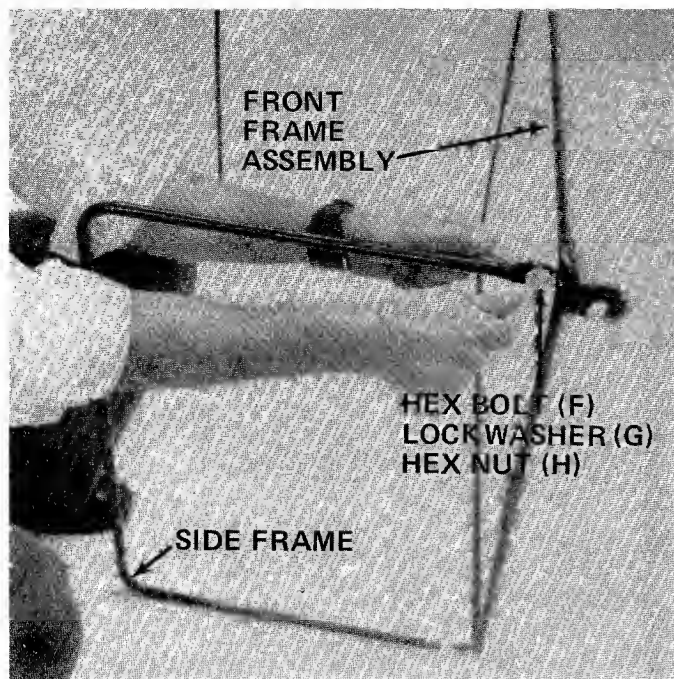

FIGURE 4
3. Place the side frames in position over welder washers on front frame assembly. Secure in place with four hex bolts (F), lock washers (G) and hex nuts (H). See figure 4. Two 7/16" wrenches are required.